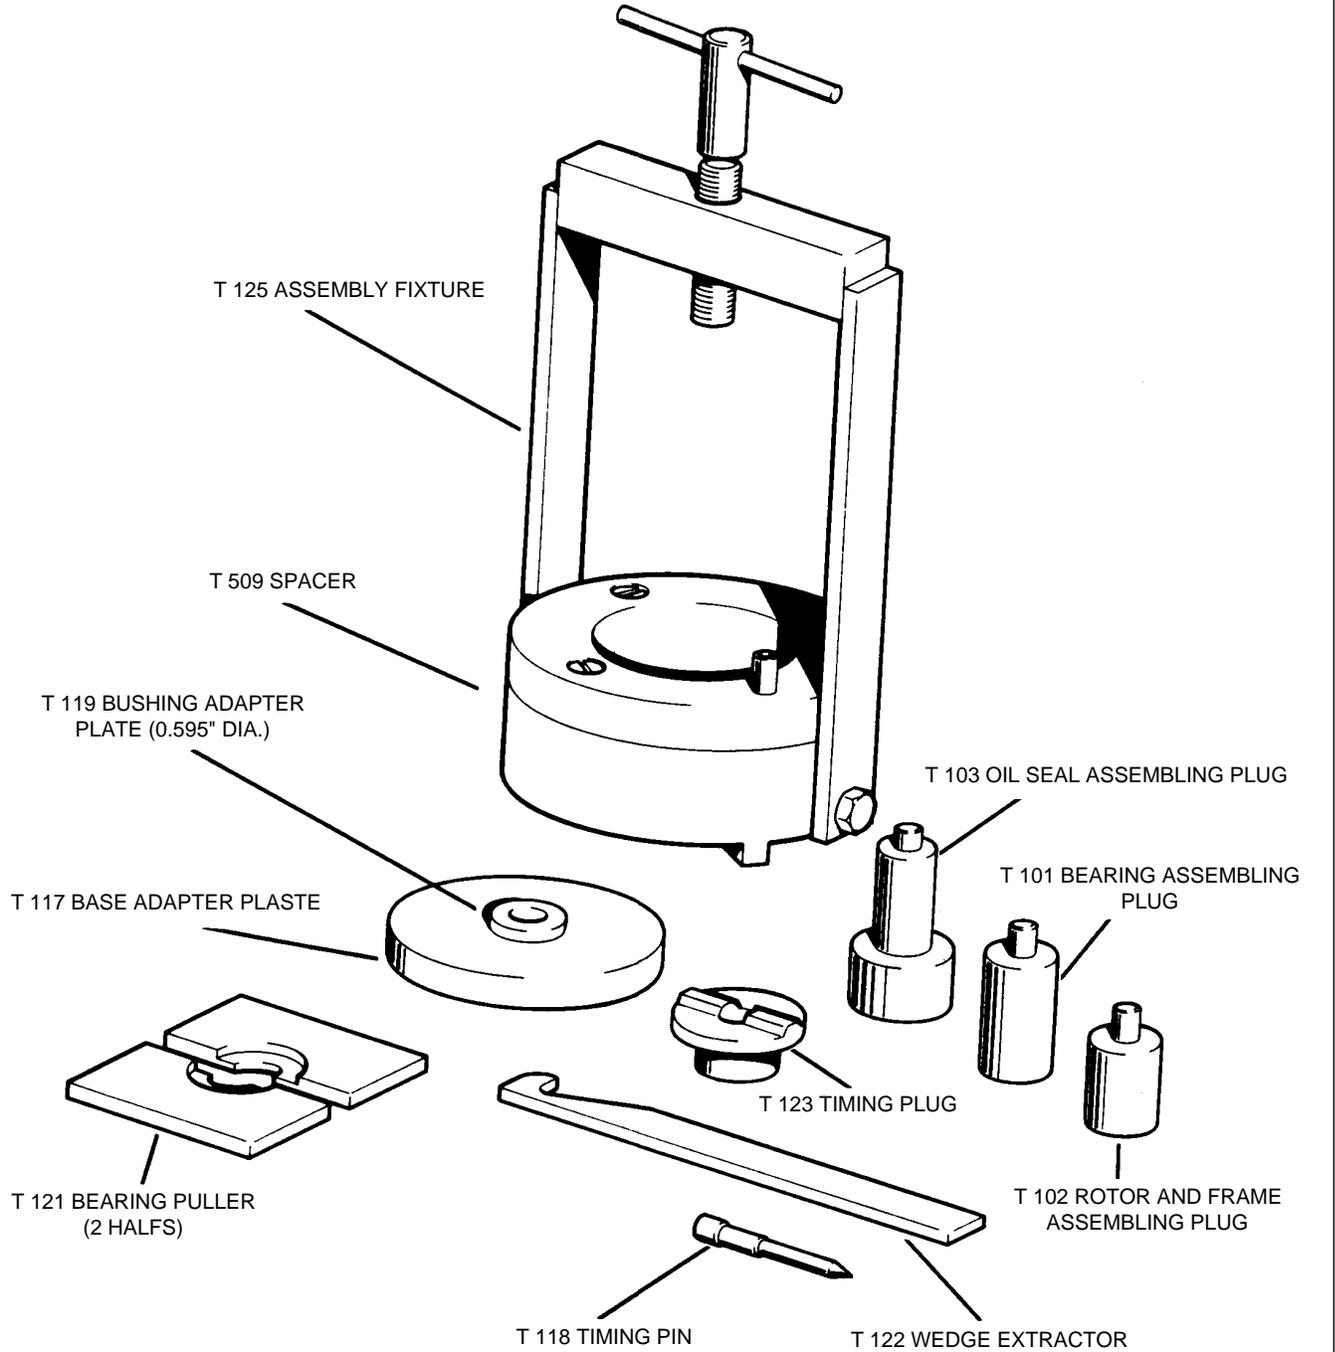

Figure 8-7 T-1000 Assembly and Timing Tool Kit
***Although not required, use of the slick T-100 assembly and timing kit is strongly recommended. (Refer to Figure 8-7.) The tools contained in this kit will greatly facilitate magneto disassembly / assembly and help prevent damage to parts.***
- a. Insert the T-118 timing pin (refer to Figure 8-7) in the L or R hole in the distributor block (depending on rotation of the magneto).
b. Insert the T-118 timing pin (refer to Figure 8-7) in L or R hole in the distributor block. Turn rotor opposite the rotation of magneto until the pin engages the gear and install magneto and gasket on the mounting pad of the accessory housing and remove the timing pin. Tighten the bolts finger tight.